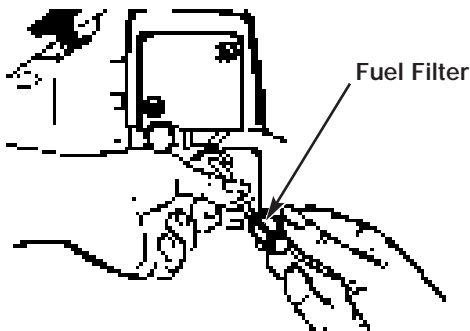

Fig. 24
2. Pull the filter off with a twisting motion (Fig. 24).